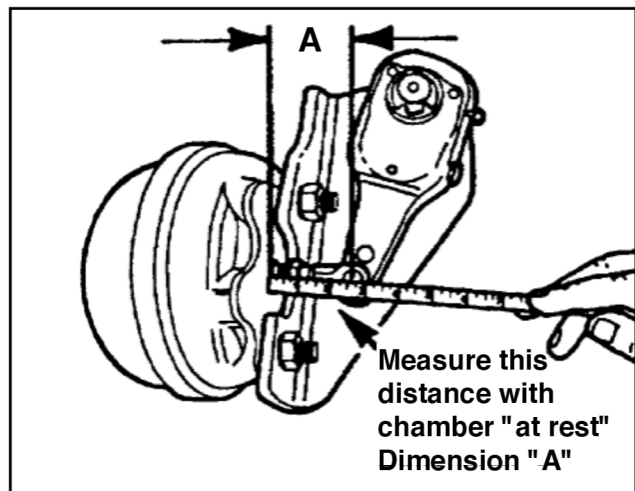

Fig. 3
1. Measure from the brake chamber face to the center of the clevis pin at all wheel locations (see Fig. 3).